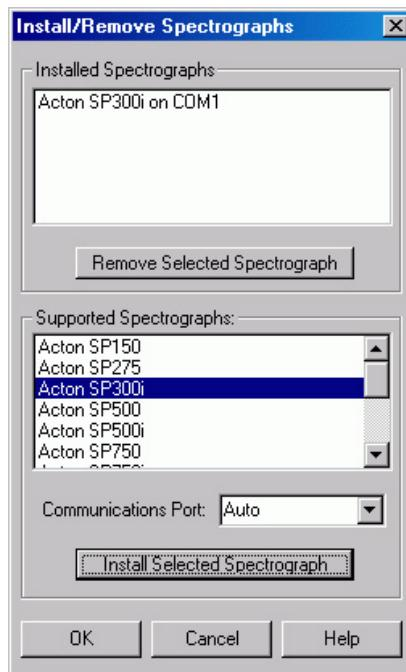

Figure 22. *Install/Remove Spectrographs*
6. Click on **Install/ Remove Spectrograph**. This will open the Install/Remove Spectrographs dialog box (Figure 22). The lower window lists the supported Spectrographs. The upper window lists those installed. To install a spectrograph, select it from the list in the lower window, select the Communications Port (Auto, COM1-COM8, or DEMO) and click on **Install Selected Spectrograph**. The installed spectrograph will then appear in the upper window. In the case of the example shown in Figure 22, the selected spectrograph is an Acton SP300i.